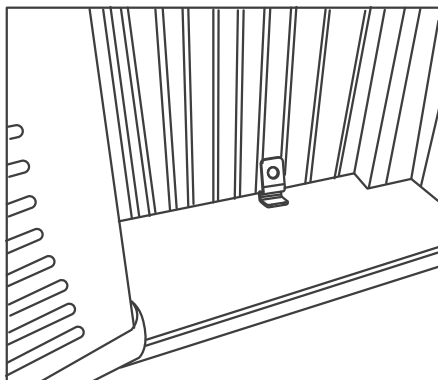
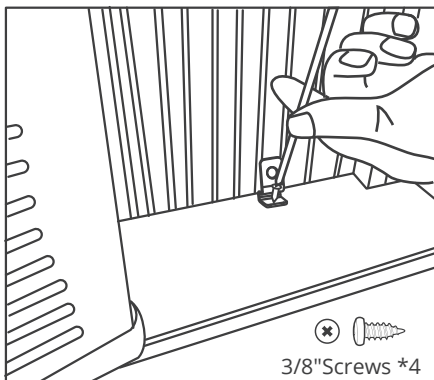

Fig.9
Fig.10
- Place the frame lock between the extended accordion panels and the window sill as shown in Fig.9. Screw a 3/8" (19mm) locking screw through the frame lock and into the window sill. (Fig.10)